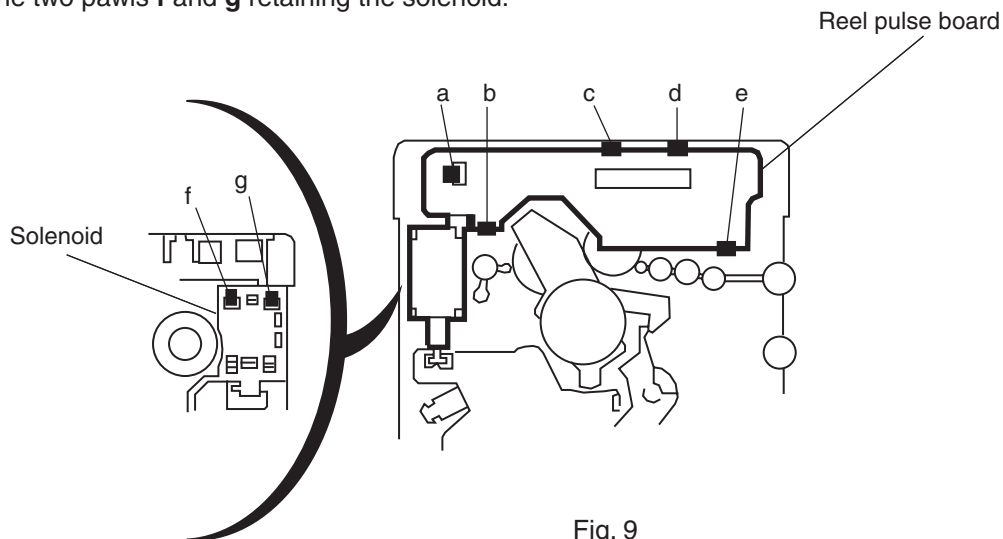

Fig. 9
■ Removing the reel pulse P.C. board and solenoid (See Fig. 9)